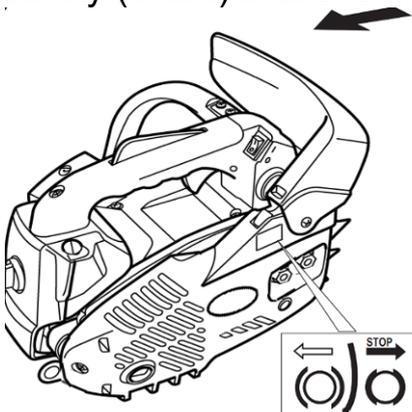

Fig.5
2) Position the chain saw body as shown in fig.5 and make sure that the safety (chain) brake is disconnected (arrow fig.5).